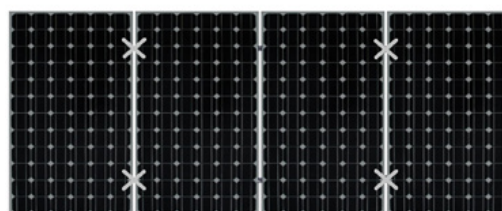

Fig. 30
- When there is an even number of PV Modules in each row, install the grounding clips at the positions marked X in Fig. 30, where the number of Grounding Clips = number of PV Modules. Figure shows 4 x PV Modules requiring 4 x grounding clips.